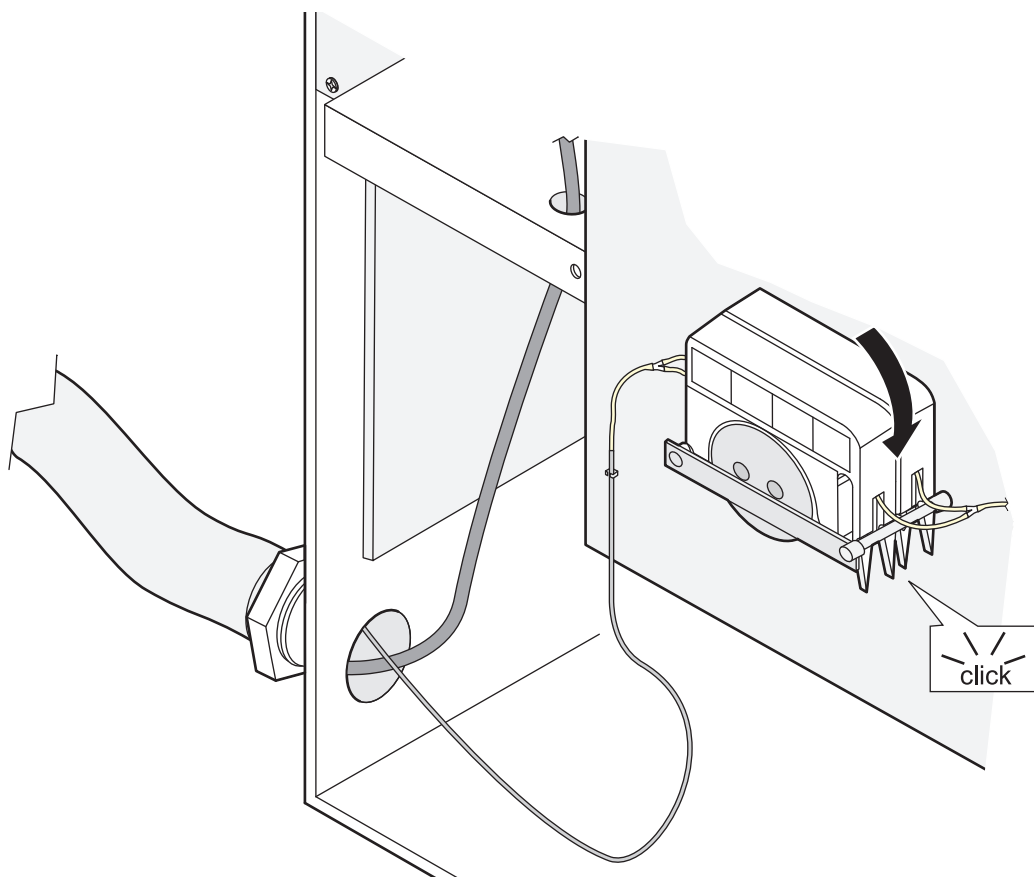

Figure 11 Click pump cassette into place
1. Make sure that the pump cassette is correctly engaged in the control unit (refer to Figure 11 Click pump cassette into place on page 19).